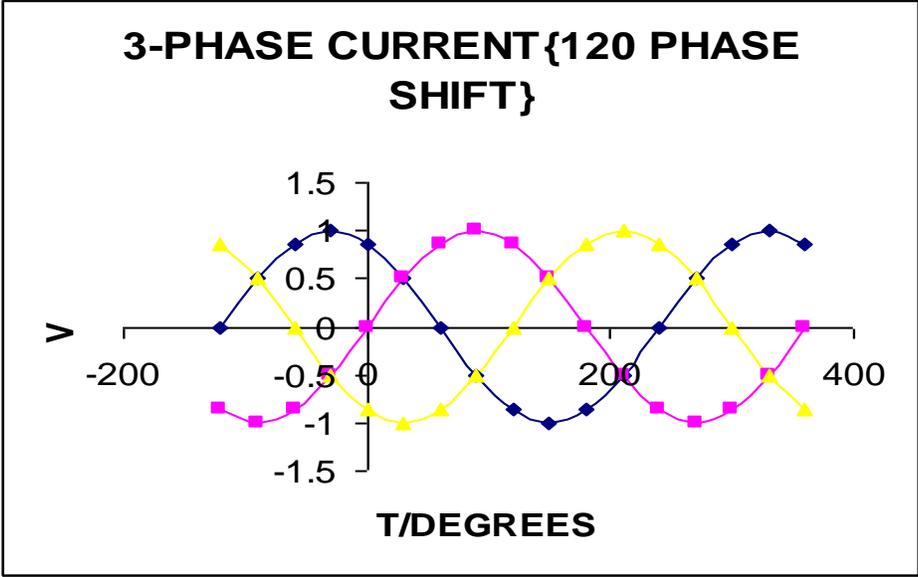

Fig 11: 3-phase system, illustrating 120° phase difference
It should be noted that the Power Generation Company of Trinidad and Tobago, delivers electrical power to many Industries and Commercial sites using a system of three (3) voltage conductors, each of which are 120° out-of-phase with one-another. This example is illustrated in fig11.